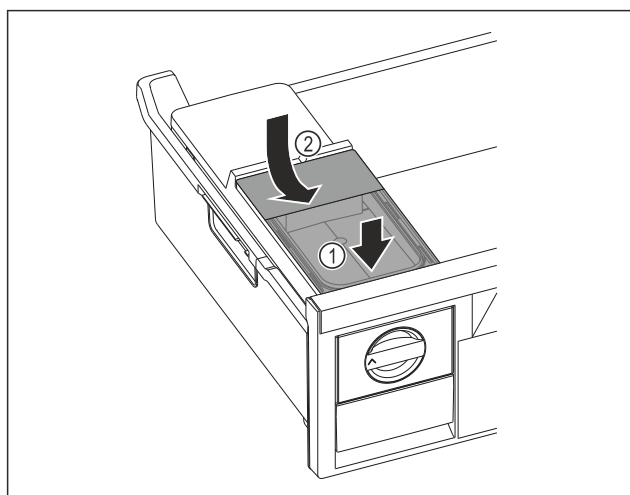

Fig. 99
- Position the water tank at the front. Fig. 99 (1)
- Lower the water tank at the rear. Fig. 99 (2)